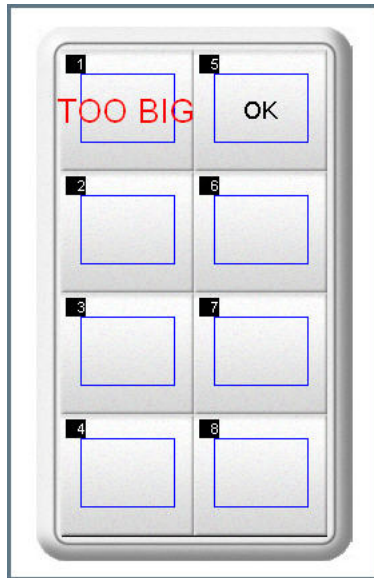

FIG. 213 Engraving - Show Bounding Box
- If your characters do not fit completely inside the bounding box, the characters are displayed in red as a warning (FIG. 213):